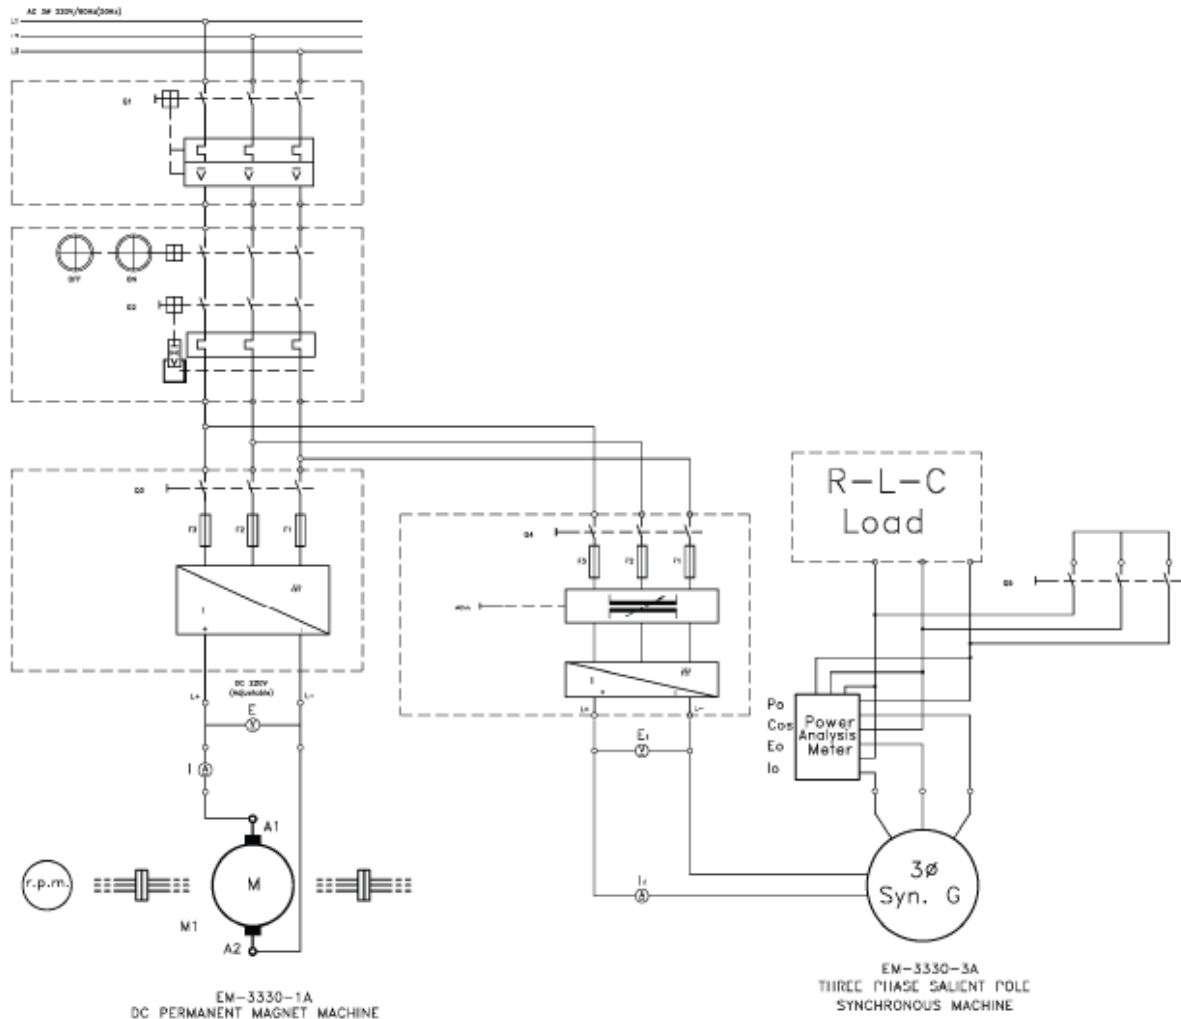
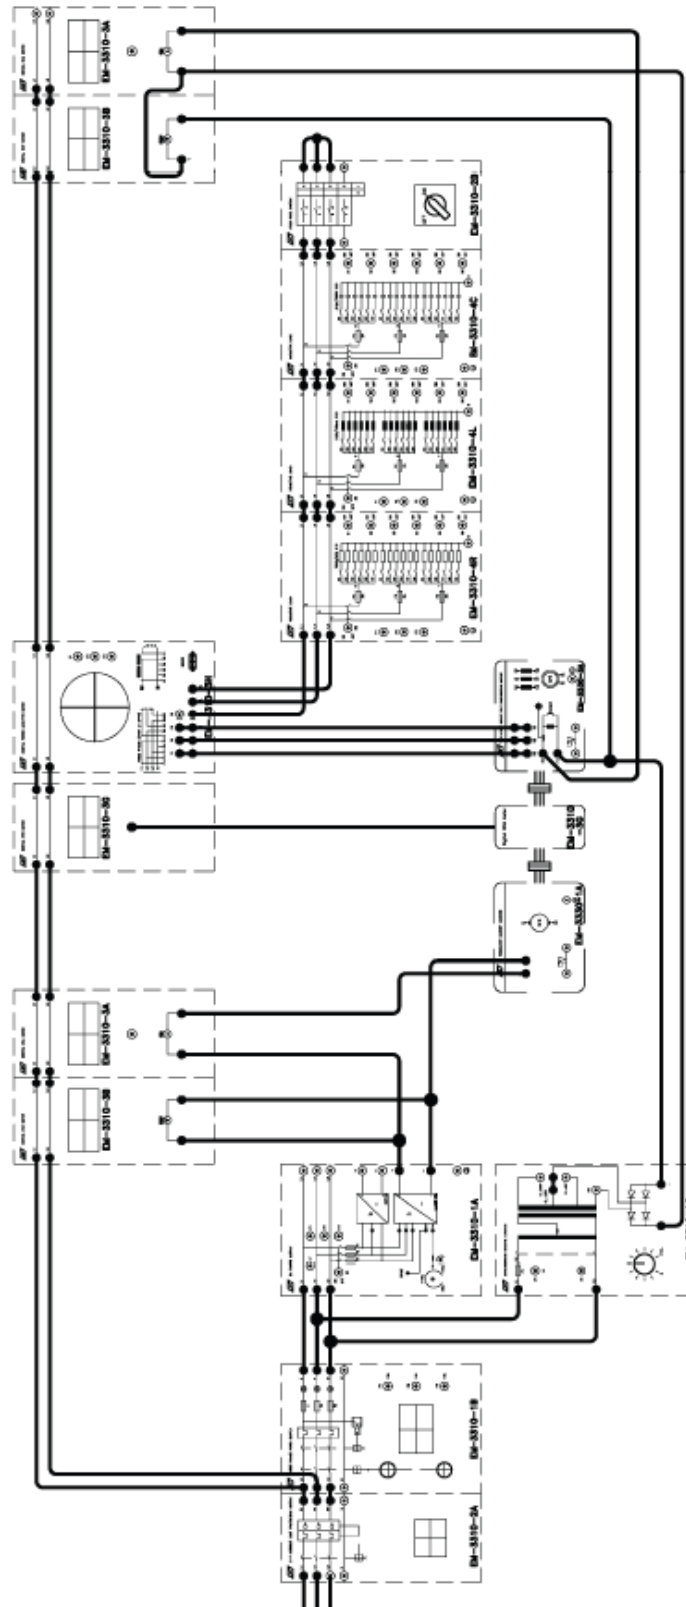

Fig. 15-4-1 Circuit diagram for load characteristic test
Fig. 15-4-2 Connection diagram for load characteristic test
1. Place the DC Permanent-magnet Machine, Three-phase Salient Pole Synchronous Machine, and Digital RPM Meter on the Laboratory Table. Mechanically couple the DC Permanent-Magnet (PM) Machine to the Three-phase Salient Pole Synchronous Machine and the Digital RPM Meter using Couplings. Securely lock Machine Bases together using delta screws. Install the Coupling Guards and the Shaft End Guard.
2. Construct the circuit in accordance with the circuit diagram in Fig. 15-4-1 and the connection diagram in Fig. 15-4-2. Have the instructor check your completed circuit.